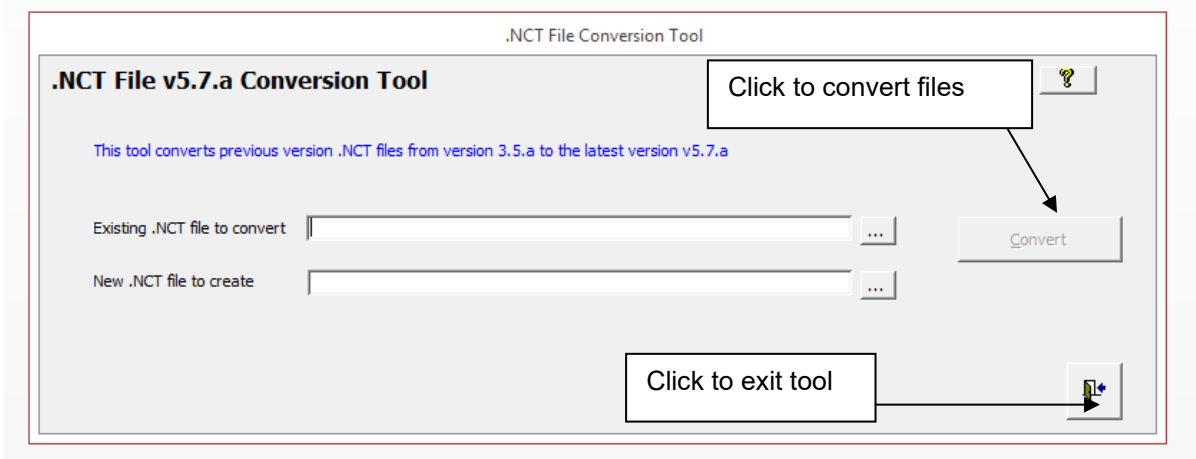
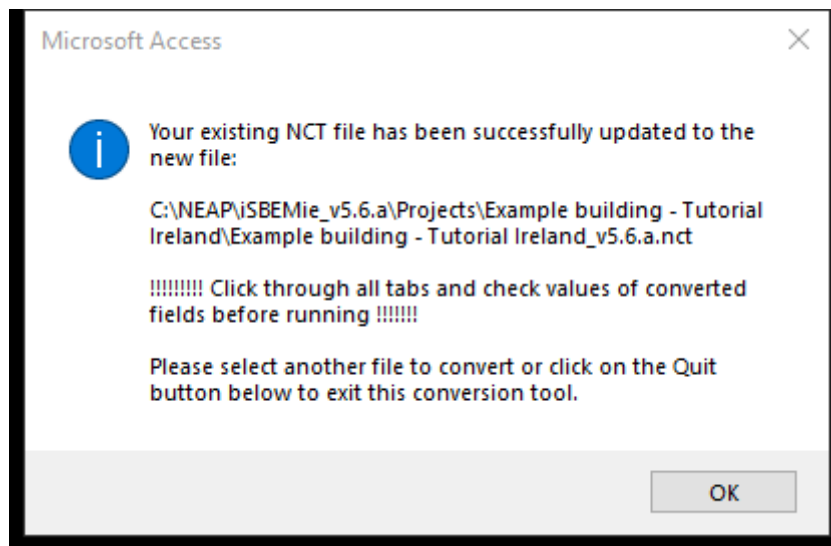

Figure 20: The Convert and Quit buttons
Figure 21: Message which appears after conversion
4. **Convert the file** – When both of the fields are filled, the 'Convert' button becomes active (see Figure 20). Clicking on this button converts the files and produces the message shown in Figure 21. Click on 'OK'. The new file will be saved to the same folder as the original file by default, unless you specify otherwise.
5. **Close the tool** – Click on the 'Exit' button (see Figure 20).